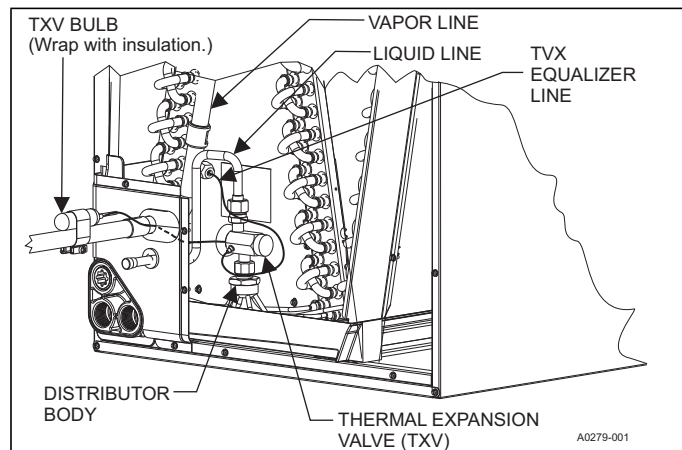

FIGURE 8: TXV Bulb and Equalizer line Installations
5. Slide the nut removed in step 3 over the supplied liquid line. Place supplied Teflon washer from TXV kit in place on TXV, and install liquid line to the top of the thermal expansion valve. Adjust assembly so liquid line aligns with hole in access panel. See Figure 8. Hand tighten the liquid line, and apply an additional 1/4 turn to seal.
6. Install the TXV equalizer line onto the vapor line by hand tightening the 1/4" SAE coupling nut to the equalizer fitting, and apply an additional 1/3 turn to seal. See Figures 8, 9 & 10.
8. Install the TXV bulb to the vapor line near the cabinet, using the bulb clamp(s) furnished with the TXV assembly. Ensure the bulb is making maximum contact. See Figures 8, 9 & 10, and accomplish the following: